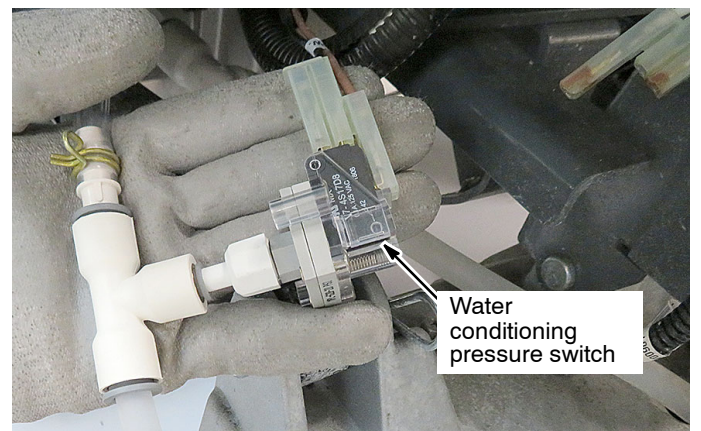

Fig. 18
17. Connect the pressure switch wire connector to the water conditioning pressure switch assembly as shown (Figure 18).